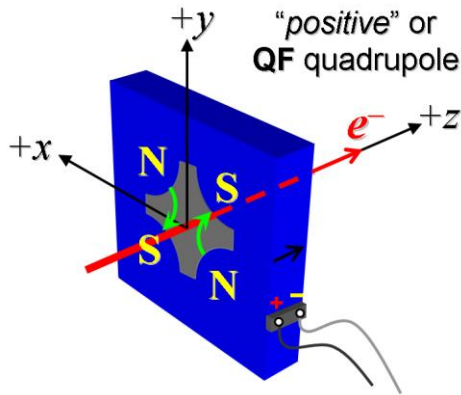

Figure 1. The QFXL1, QFXL2 and SPARE magnets are “positive” (left).
Magnet polarity chosen from Fig. 1 is (P):	P